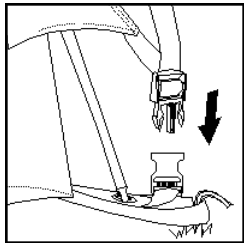

Figure 11A
13. Clip the buckles on the fly to the buckles at each corner of the tent body (figures 11A and 11B).